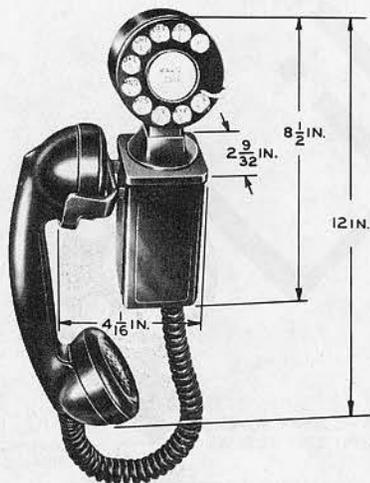

Fig. 7 - Dial Hang-up G-type Set
5.02 The C-type mounting shown in Fig. 4 and 5 provides rotating adjustment to position the dial with respect to the user. The G-type mounting shown in Fig. 7 provides both rotating and tilting adjustments for positioning the dial.